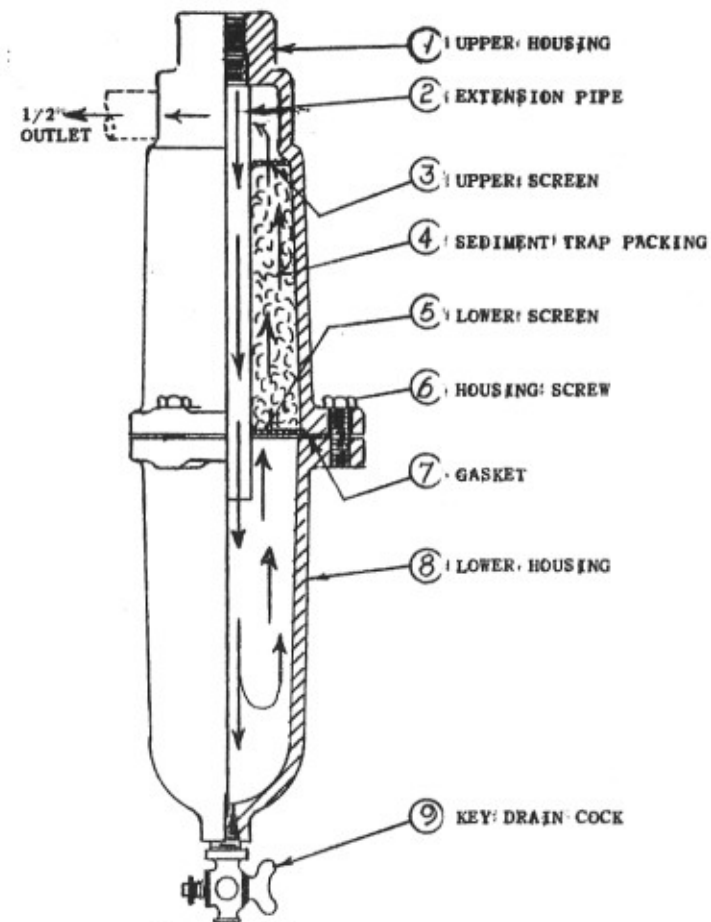

Figure 182
**AIR SEDIMENT AND WATER TRAP:** Refer to Figure 182. Air enters at top of trap and is piped through the sediment packing to the lower portion where water is trapped. At this point, pressure forces the air back up through the lower screen, through sediment packing, through upper screen to the outlet. The lower housing should be blown out by opening the pet cock provided at the time the water filter is handled. The sediment packing should be cleaned in solvent once a year. After cleaning inspect for defects and renew if necessary.]